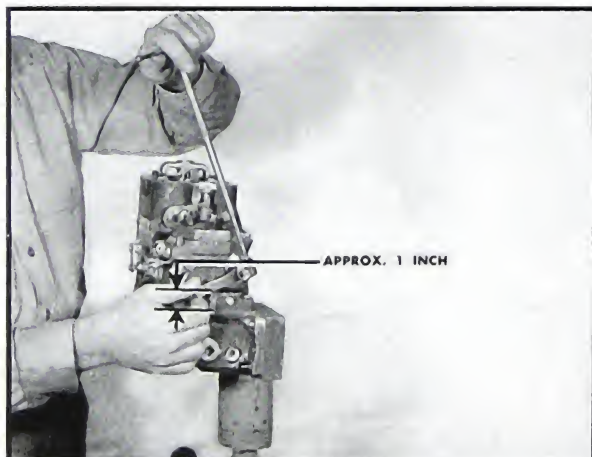

Fig. 5-357. Tighten hand control lever in position
3. Set the hand control lever at the position required for maximum fuel. Usually this lever will form a 30° angle in relation to the parting line between the center and lower pump housings. The center of the throttle lever hole would be approximately 1 inch above the parting line of the housings. Fig. 5-357.